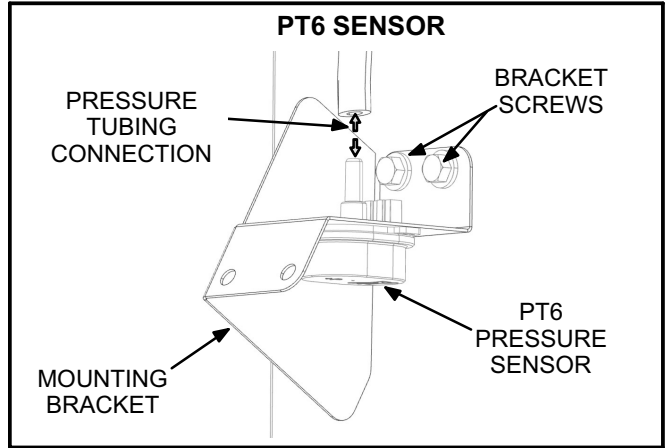

FIGURE 3
- 8- Disconnect the pressure tubing from PT6 pressure sensor. See figure 3. Remove two screws and remove sensor/bracket assembly (note the orientation) from existing blower housing. Install the sensor/bracket onto the replacement blower assembly. Reattach the tubing in the same manner they were removed.